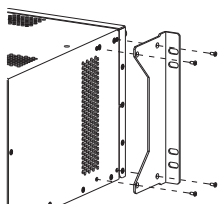

FIG. 1 Attach rack ears
1. Attach rack ears (4 screws each); see FIG. 1.